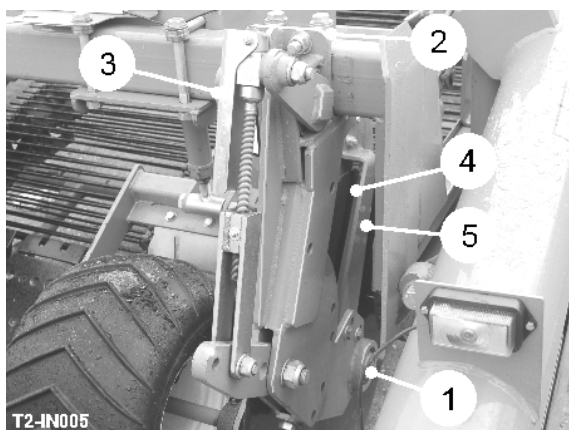

Fig 5
On row work, the harvester is fitted with four disc coulters (item 1, fig. 5). On full width bed work, the harvester is fitted with two disc coulters. The discs run on either side of the ridge, cutting and parting the haulm and trash in front of the shares whilst at the same time containing the ridge and feeding it over the shares onto the digger web.
To set the disc coulters row width/cutting width, release the clamp bolts (item 2, fig. 5) and slide the disc assembly along the bridge beam to the required position. When correctly set the discs should be approximately 20mm clear of the edge of the share blades. To set the disc coulters depth, turn the adjusting handle (item 3, fig. 5), which also increases the spring load on the disc. The disc coulters are each fitted with two scrapers (item 4 & 5, fig. 5). These should be set as close to the disc as possible without fouling it.